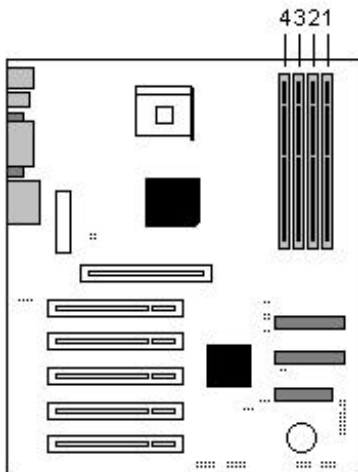

Figure A-1.
- Install the memory **in sequence**. For example, install the first memory module in DIMM socket **1**, then **2**, and so on. DIMM socket **1** is shown in the picture **above (Figure A-1)**.